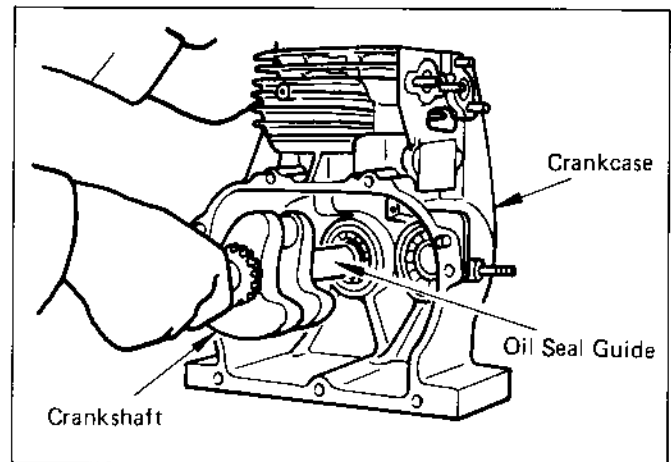

Fig. 6-3-16
- 3) In reassembly; Attach oil seal guide on end of crankshaft and mount crankshaft in crankcase as shown in Fig. 6-3-16.